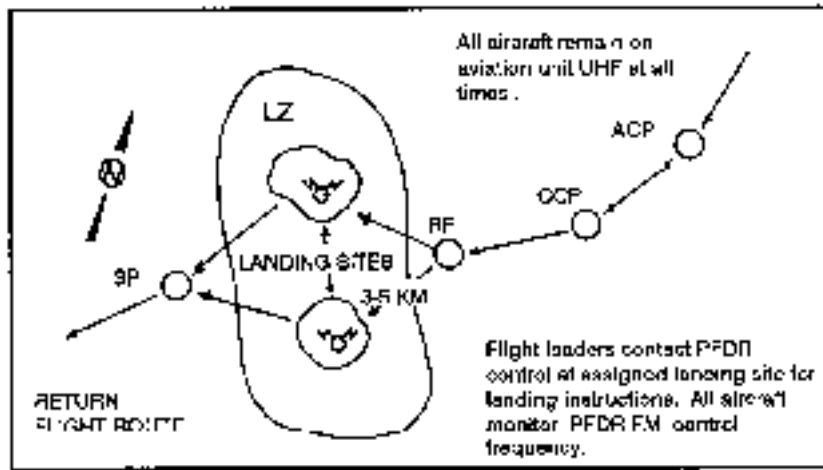

Figure 2-1. En route communication procedures with pathfinders in an LZ.
a. Pathfinders must have a thorough understanding of radio procedures to include phraseology unique to ATC (Chapter 3). Communications must be clear, concise, applicable, accurate, and correctly timed. To achieve speed and clarity of transmission, radio discipline is practiced by pathfinders and aviators. Unnecessary messages are not transmitted. Pathfinder ATC frequencies (Figure 2-1) should only be used for ATC, except in emergencies.